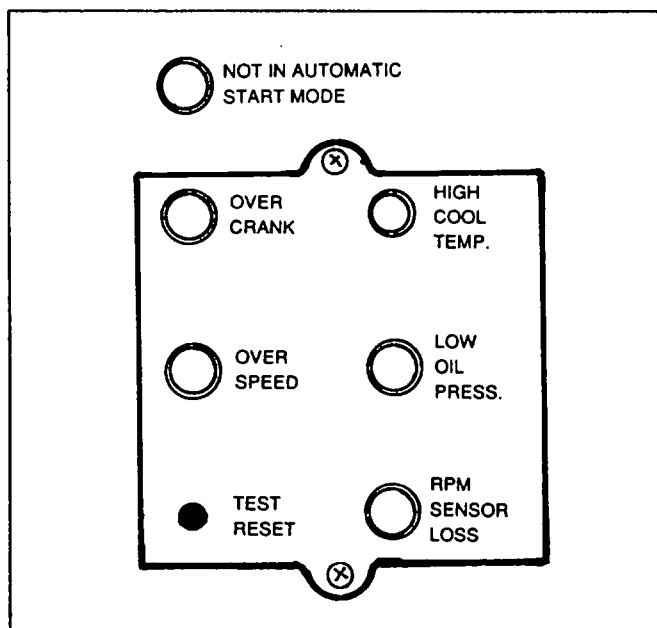

Figure 1. The Option "C" Engine Monitor Panel
The engine monitor panel (Figure 1) mounts five (5) engine fault advisory lamps, a test/reset switch, and a "Not in Automatic Start Mode" advisory lamp. The panel mounts the following engine fault advisory lamps: